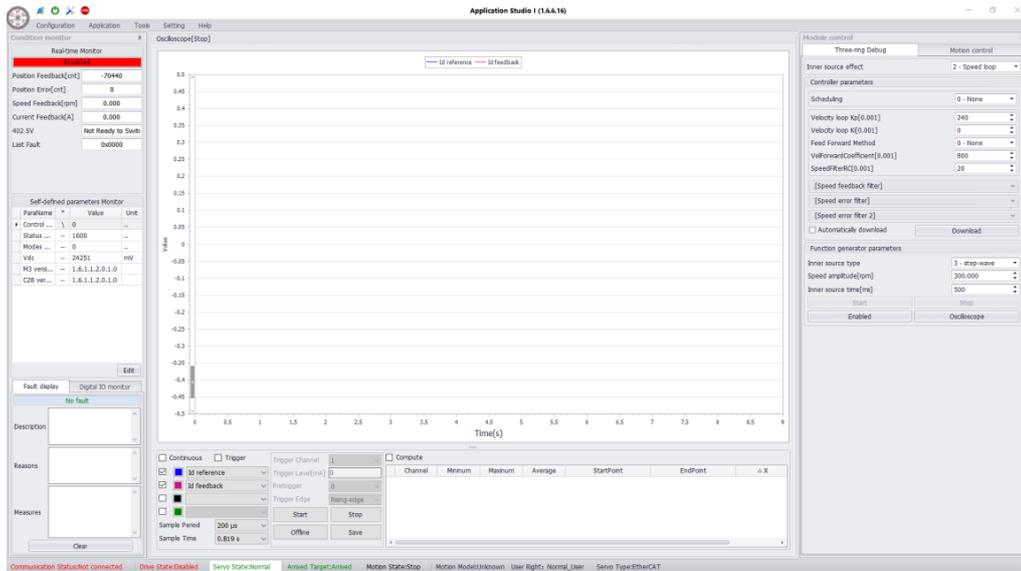

Figure 3-19 Velocity loop debugging interface
1. Select "**Velocity Loop**". The debugging interface of the velocity loop shows as in Figure 3-19: